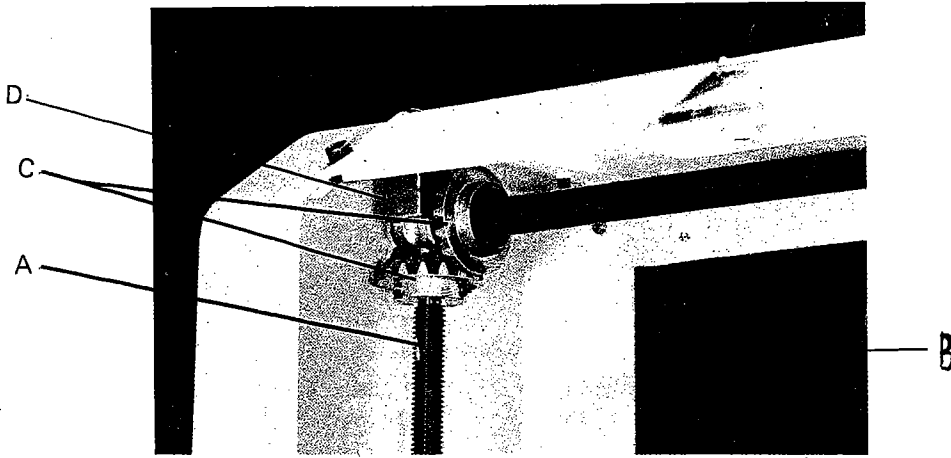

Fig. 12
1. Lead Screw - left and right lead screws (A) require grease. (Fig. 12)
2. Slide Rails - slide rails of head casting require grease. (Fig. 12)
3. Bevel Gears - Grease gears (C). (Fig. 12)
4. Guide Screw Bracket (D) - four lubricating points where guide screws meet guide screw bracket need grease. (Fig. 12)